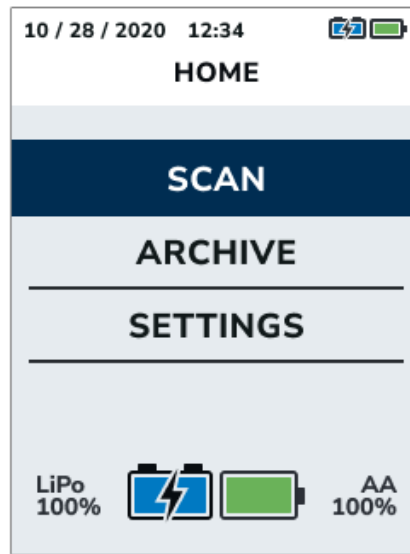

Fig 3-4: Home Screen
- 3.2.2 Select the “Scan” option, as shown in Figure 3-4. The status bar at the top of the screen shows the current date, time and the active battery charge level. At the bottom of the screen the status of the different batteries is presented:
1. In the Home Screen (Figure 3-4), click on "Archive" button.
In the Home Screen (Figure 3-4) click on “Settings” option to reach the Settings Screen (Figure 3-15), which allows changing some of the different parameters of the Infrascanner.